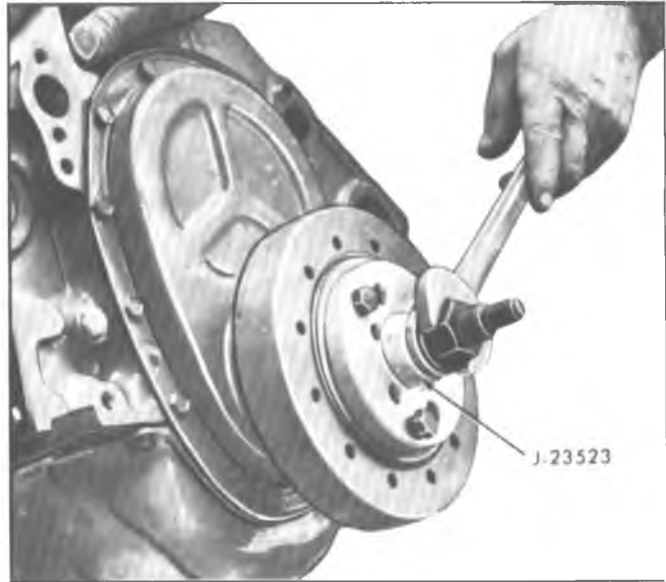

Fig. 17L—Installing Torsional Damper (Pull on Type)
- d. Pull damper into position as shown in Figure 17L.